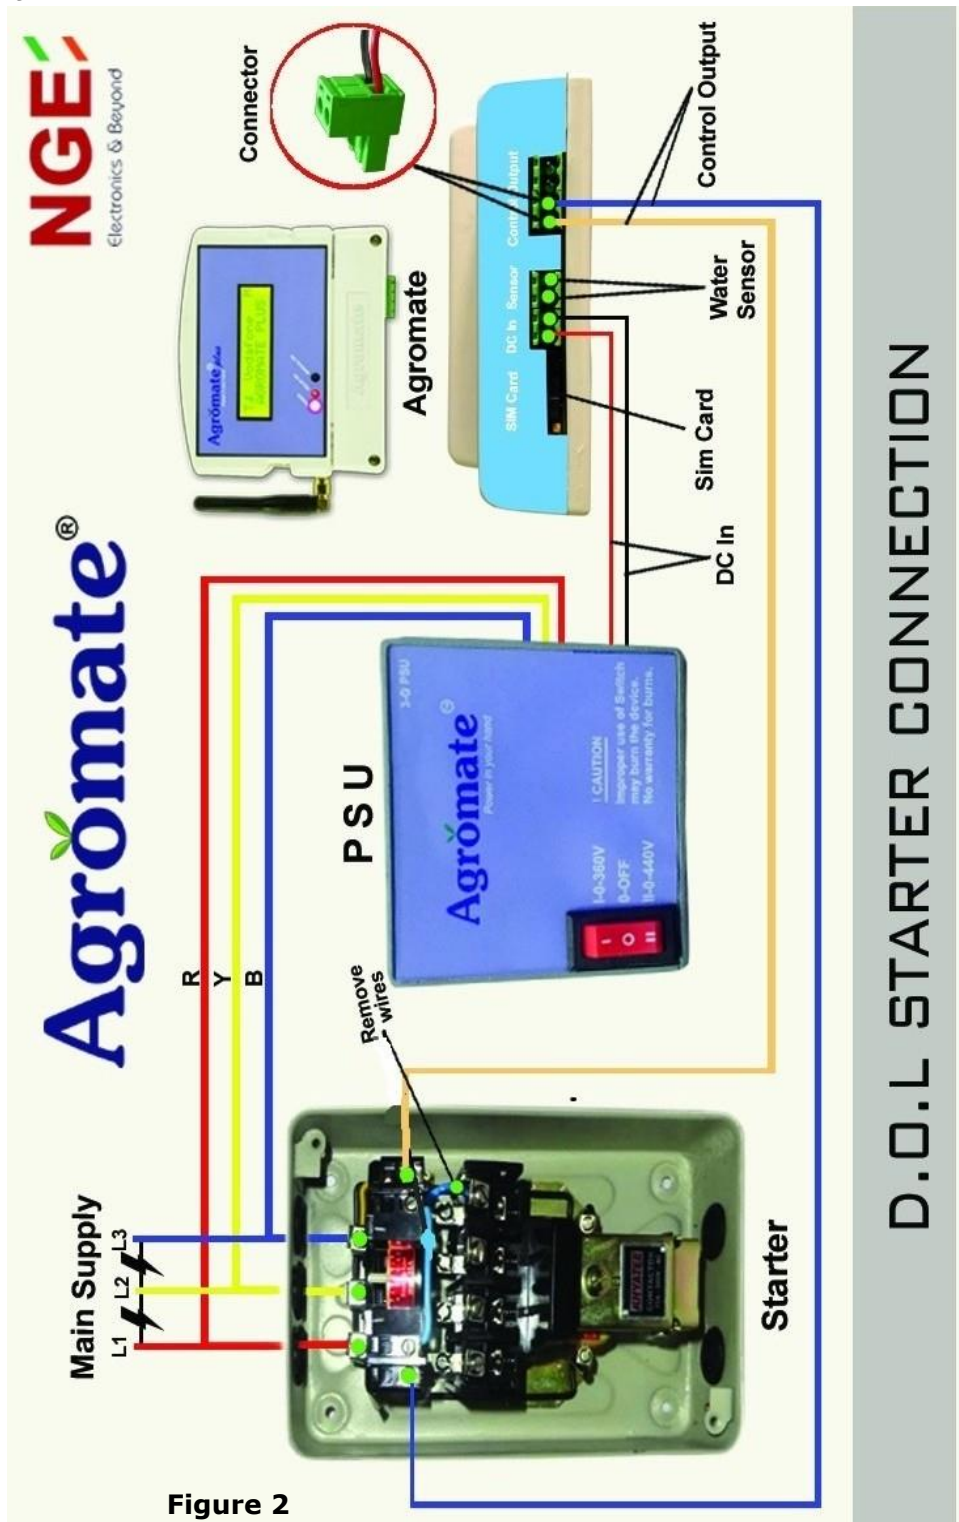

Figure 2
- After completion of installation As shown Fig 2 & 3 (DOL & Star-Delta Starters) or if require any help in installation give miss call to **1800 300 9696**